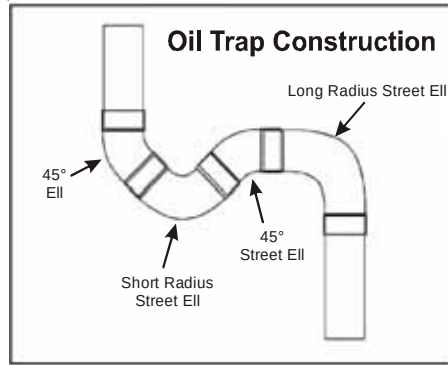

Figure 2-1. Oil Trap
** An oil trap at the indoor unit is required if the elevation difference exceeds 80'. The trap can be constructed of standard refrigerant fitting (See Figure 2-1).